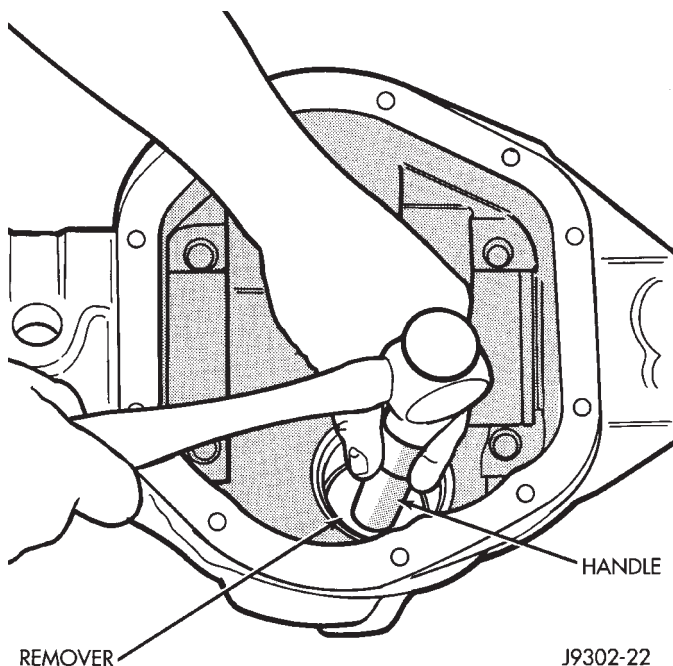

Fig. 22 Front Bearing Cup Removal
(4) Remove front bearing from housing.
(5) Remove the front pinion bearing cup and seal with Remover D-147 and Handle C-4171 (Fig. 22).